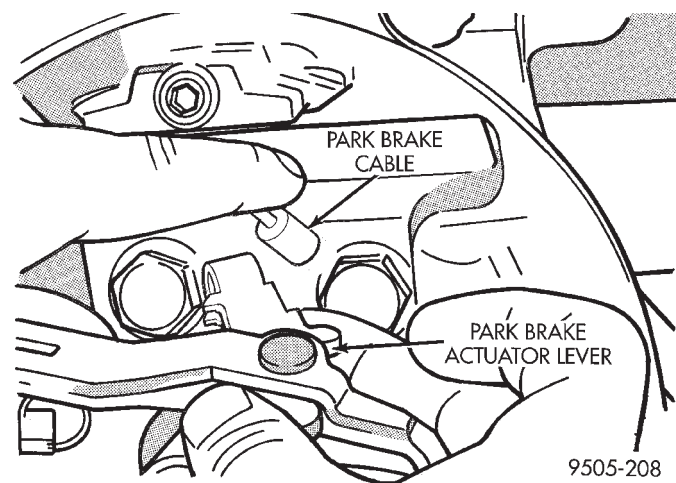
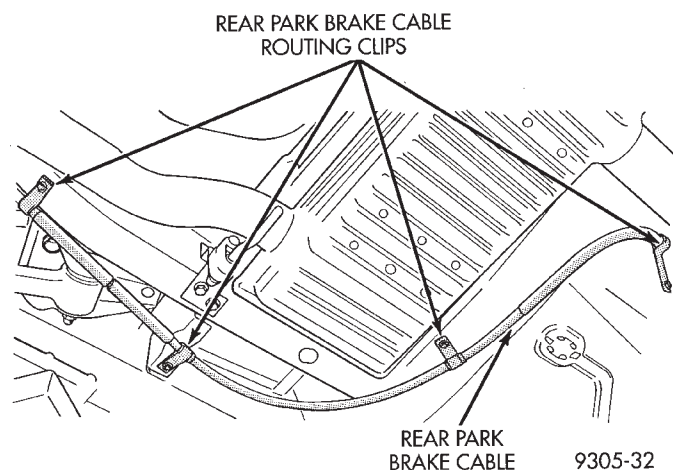
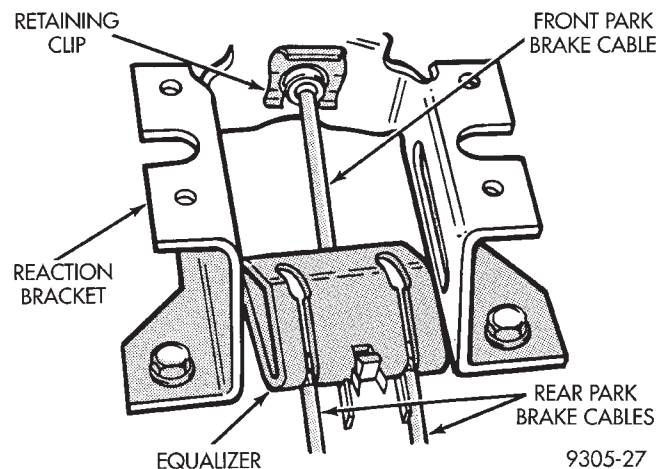

Fig. 136 Park Brake Cable Attachment To Park Brake Lever
Fig. 138 Park Brake Cable Routing Clips
Fig. 141 Park Brake Cables Connected To Equalizer
(7) Disconnect park brake cable from the park brake actuator lever (Fig. 136).
(9) Remove the 4 routing clips attaching rear park brake cable to floor pan and frame of vehicle (Fig. 138).
(1) Install parking brake cable into rear disc brake adapter. Be sure the cable retaining tabs are expanded around mounting hole in brake adapter. Connect parking brake cable end to brake shoe assembly actuator lever (Fig. 136).
(2) Install parking brake cable into cable mounting hole in floor pan of vehicle. Be sure that cable retainers are expanded around mounting hole in floor pan.
(3) Install the 4 routing clips attaching rear park brake cable to floor pan and frame of vehicle (Fig. 138).
(4) Lower vehicle.
(5) Connect the park brake cable to the park brake cable equalizer (Fig. 141). **Note: The equalizer can be moved rearward to allow connection of the rear cable to the equalizer.**